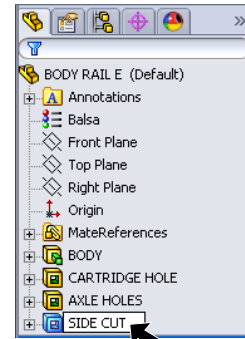

Fig. 18
Step 1. **Rename Cut-Extrude1 to SIDE CUT** in the Feature Manager, **Fig. 18.** To rename, click **Cut-Extrude1** name in Feature Manager and press **F2** on keyboard. Key-in **SIDE CUT**.